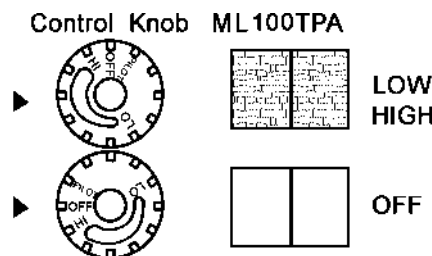

Figure 23 - Burner Patterns
8. Turn control knob counterclockwise ↻ to desired seating level. The main burner should light. Set control knob to any heat level between HI and LO. (see Figure 23)